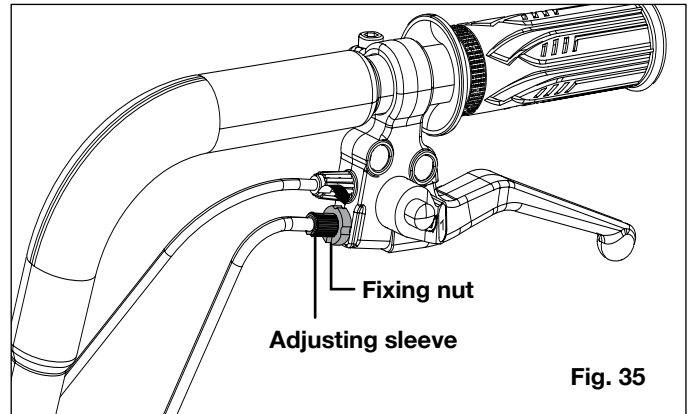

Fig. 35
9. Tighten the fixing nut and the adjusting sleeve by turning them clockwise (Fig. 35).